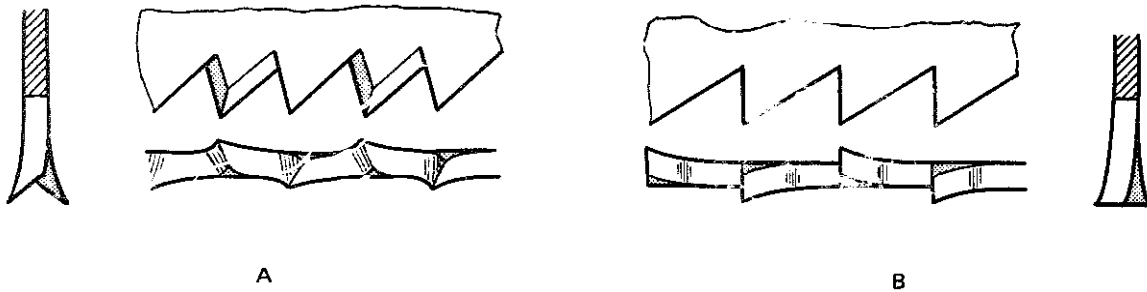

Fig. 6-27
4. Identify the type of saw teeth shown in sketches A and B, figure 6-27. Explain why each type is shaped as illustrated.